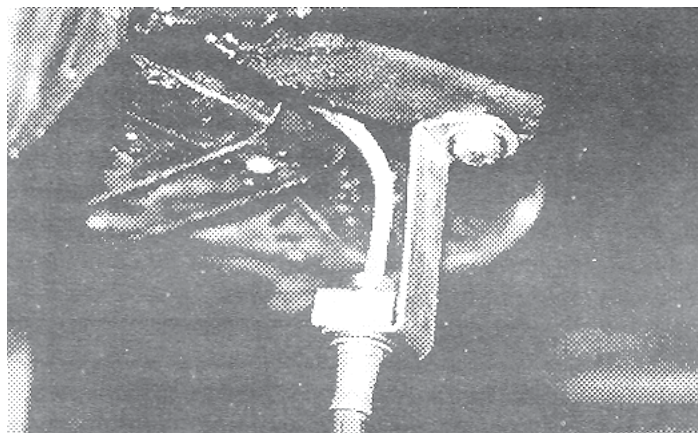

Fig. 2R
2. Remove retainer nut holding brake line to frame bracket. Slit OE bracket with saw. **DO NOT** cause abrasion to brake line. Bend bracket open, remove line. Close bend. Install bracket "BB" using 3/8" x 1-1/4" bolt, washers, and nut provided. Reinstall line into "BB" and tighten OE line retainer nut. **Fig. 2R.** On 1994 vehicles, remove bolts retaining emergency brake cable to frame at the front spring eye.